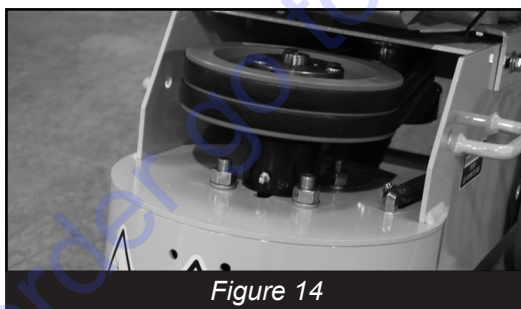

Figure 14
- Remove belt cover to expose belts. (Figure 14)